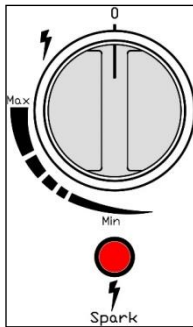

Figure 11
- Holding the knob in position, **press the red spark button underneath the knob until the pilot light is switched on** (Figure 11)
NOTE - to turn off the heater, turn the knob **back to 0 = ZERO** (Figure 11).
With the pilot light on, turn the knob to MAX or MIN as on the label (Figure 11) until the desired comfort level is reached.